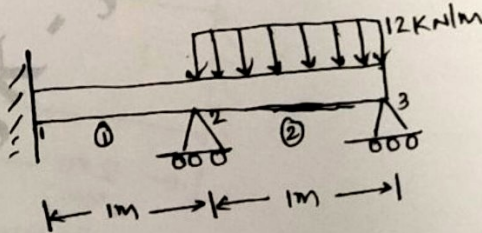

Fig Q5
- 5 For the beam and loading shown in Fig Q5, determine mine the slopes at 2 and 3. (20 Marks)